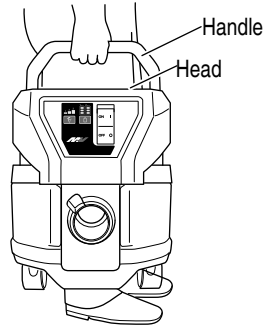

Fig. 22
(1) How to use the handle (Fig. 22)